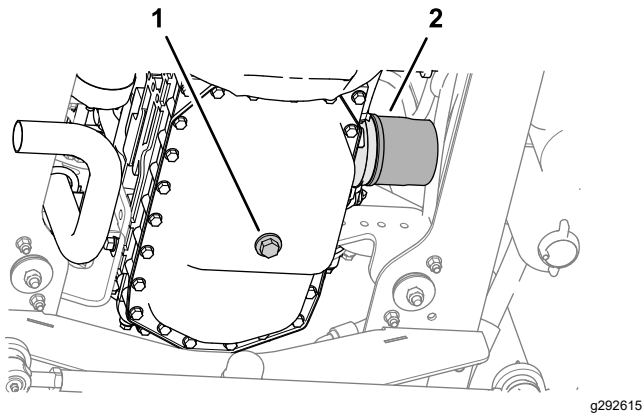

Figure 53
- Remove the drain plug and let the oil flow into a drain pan (Figure 53).